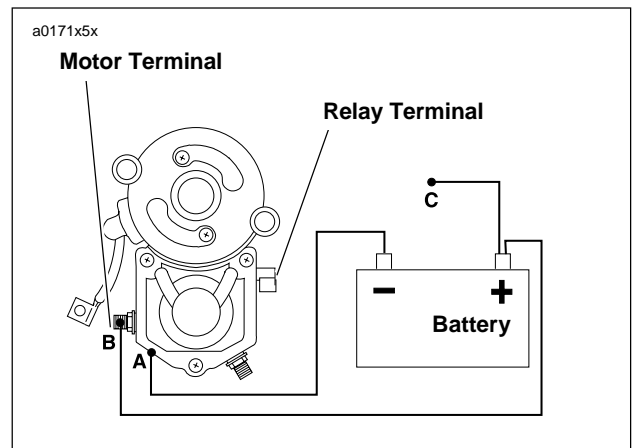

Figure 5-15. Return Test
1. See Figure 5-15. With test leads still connected in the manner specified at the end of the previous **SOLENOID HOLD-IN TEST**, **disconnect solenoid relay terminal/positive battery post test lead (C) at either end.**